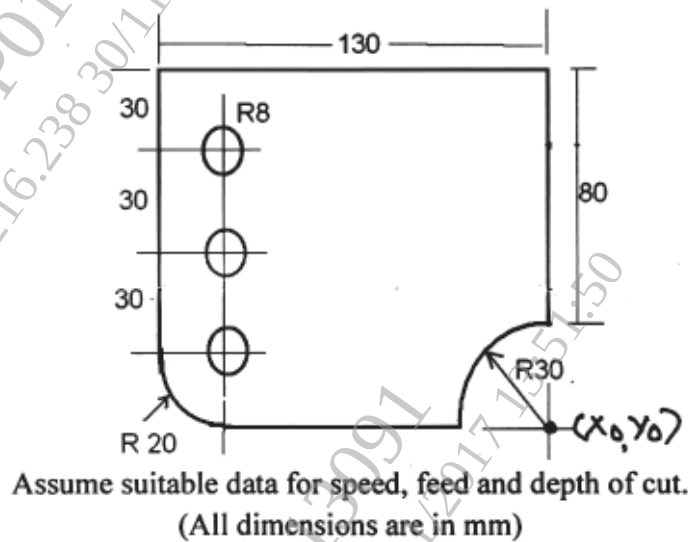

Fig.2
b) Write a CNC program using G and M codes for contouring a component of thickness 10 mm. Also make drill of 16 mm diameter hole, as shown in fig.2. [10]